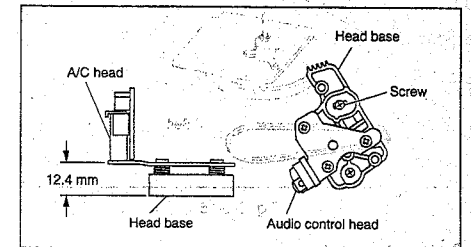

Fig. 2-2-14
- (1) To make the post-installation adjustment easier, set the temporary level as indicated in Fig. 2-2-14. Also make sure that the screw center is brought into alignment with the center position of the slot.